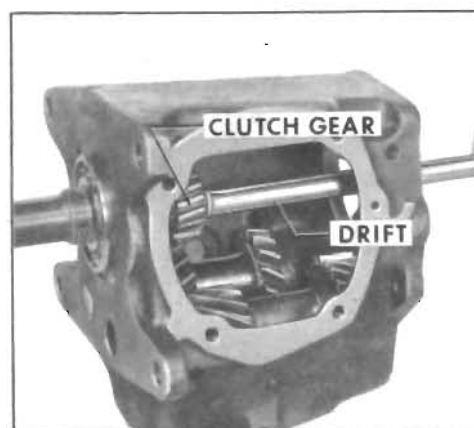

Figure 4-29—Clutch Gear Installation
9. Insert clutch gear from inside case and using a soft drift, tap the outer race of the clutch gear bearing (back of gear) until the bearing locating ring groove is outside the front of the case. Drive the assembly straight to prevent damage. See Figure 4-29.